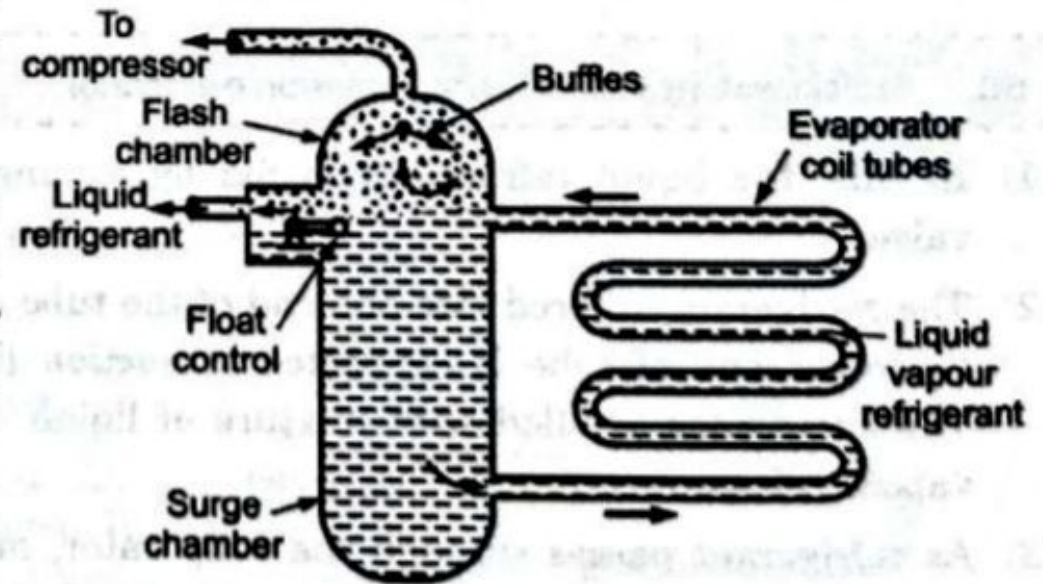

Fig. 3.4.1 : Flooded type evaporator
- (1) In a Flooded type evaporator, a constant refrigerant liquid level is maintained.
- (2) A float valve is used as throttling device, which maintains a constant liquid level in the evaporator. It consists of a shell into which, the refrigerant liquid is fed through the float valve.
- (3) The shell is connected to the top and bottom of the coil. The liquid flows from the bottom of the shell by gravity to coil tubes, in which it evaporates by absorbing heat from the surrounding.
- (4) The liquid vapour mixture from the coil returns to the shell. In the shell, the liquid and vapour are separated. The vapour is collected at the top of the shell (Flash chamber). From there it enters into the compressor through suction line.
- (5) Flooded type evaporators provide rapid cooling and are used in large capacity equipment. It is shown in Fig. 3.4.1.